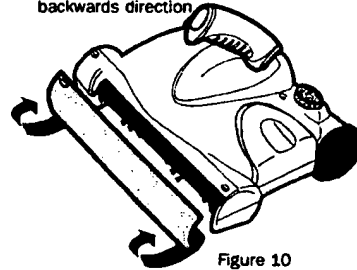

Figure 10
3. Remove the visor to clean the front surface of stairs\* (fig.10).